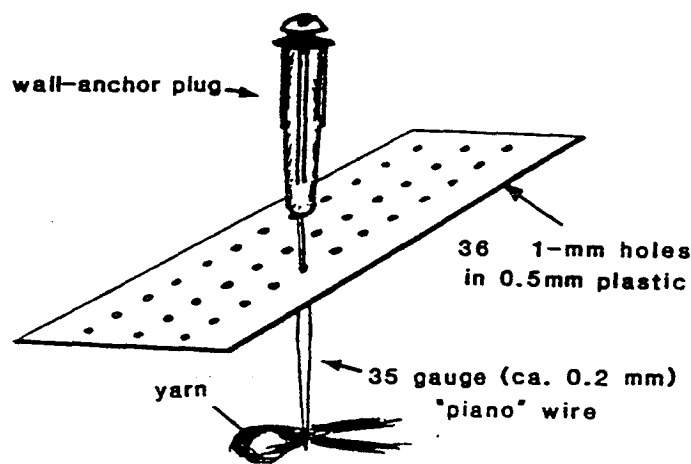

Figure 2.
2) Six strand embroidery floss is an ideal choice as a filler thread. It comes in a variety of colors and has a constant diameter. Also, the diameter can easily be changed by removing the strands as needed. If you are going to crosssection a fiber (or a few fibers), remove one strand, double the floss, and insert it through the loop of the thread-puller (Figure 2).